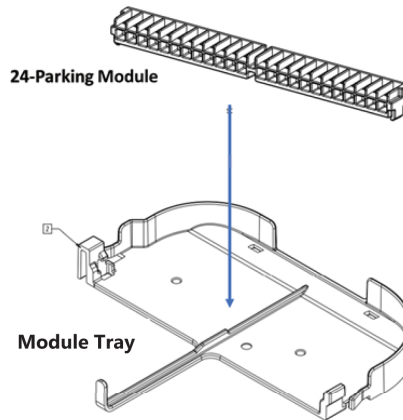

Figure 21. Install the Parking Modules
- 12.5.2 Snap the parking module into the plastic tray (See Figure 21).